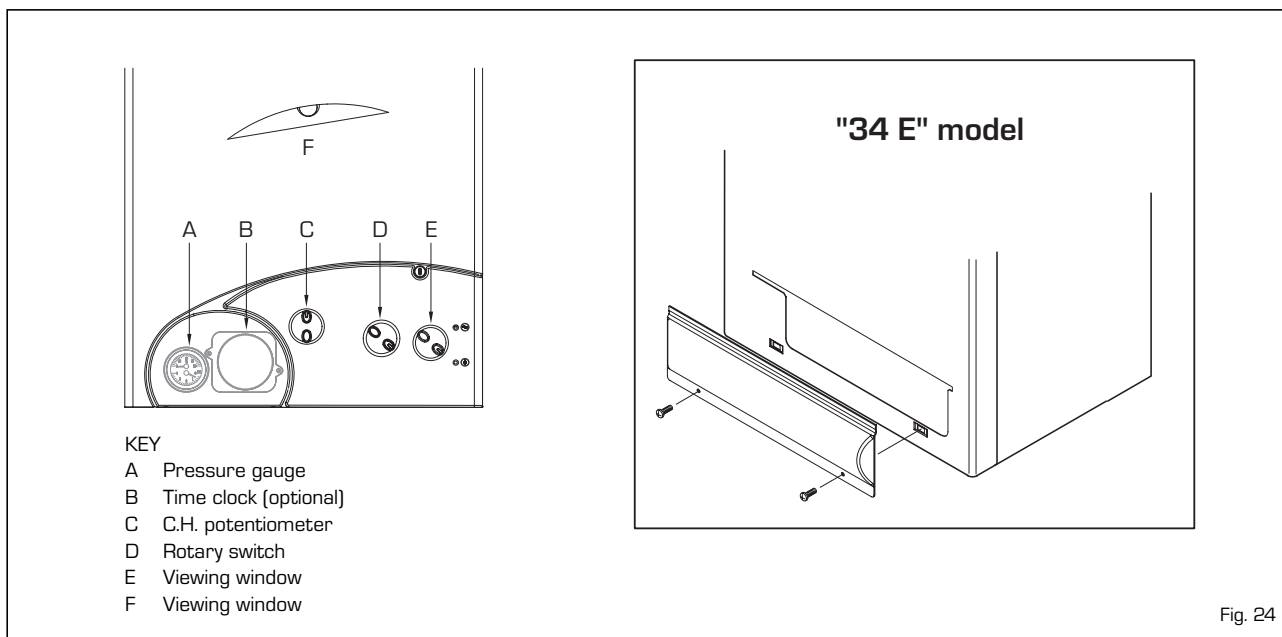

Fig. 24
1.3.1 To light the appliance (see fig. 24)
- Turn the selector switch summer/winter (C) to SUMMER (water only) position "☀".
1.3.2 To turn the appliance off (see fig. 24)
The gauge (A fig. 24) on the fascia panel indicates the approximate system pressure. If the normal running pressure is seen to decrease over a period of time there is a water leak and you should consult your installer or service engineer.